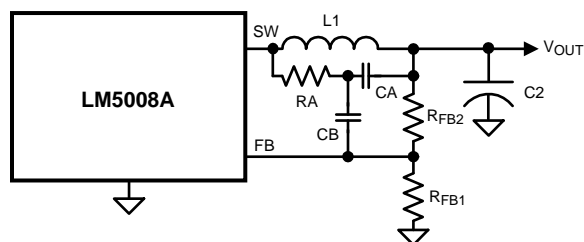

Figure 10. Minimum Output Ripple Using Ripple Injection
b) Minimum ripple configuration: If the application requires a lower value of ripple (<10 mVp-p), the circuit of Figure 10 can be used. R3 is removed, and the resulting output ripple voltage is determined by the inductor's ripple current and C2's characteristics. RA and CA are chosen to generate a sawtooth waveform at their junction, and that voltage is AC-coupled to the FB pin via CB. To determine the values for RA, CA and CB, use the following procedure: